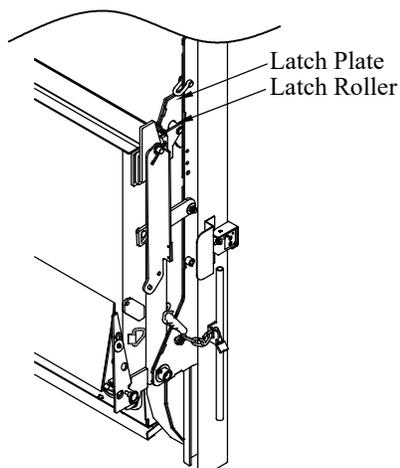

Figure 15: Platform chains removed for clarity.
34. **Raise** the liftgate until the platform is folded and the latch rollers are locked in the latch plates (Figure 15).